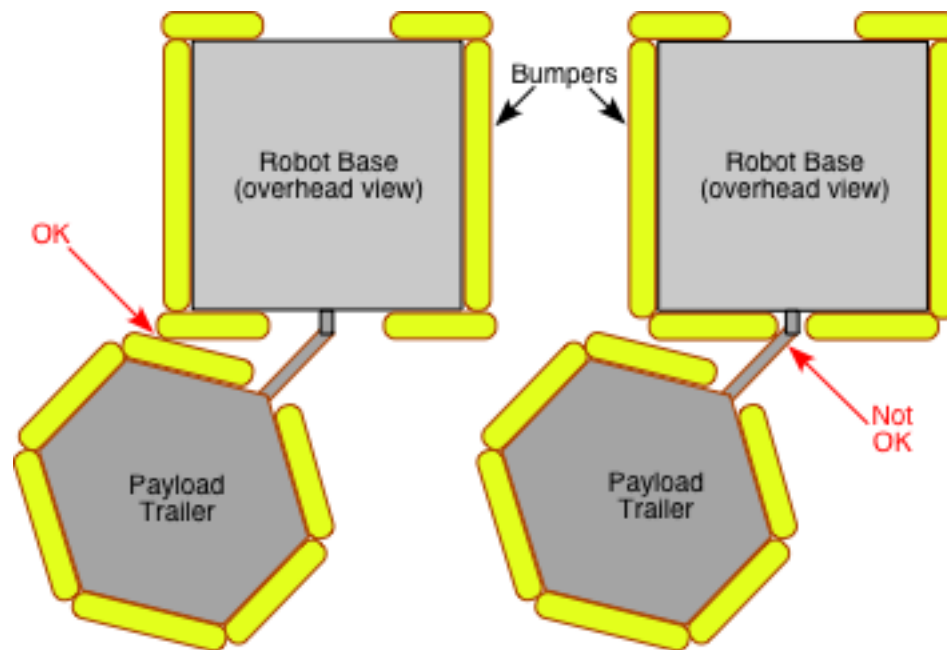

Figure 8-6
- E. The Trailer Hitch must be placed such that, as the TRAILER swings from side to side, the first contact between the TRAILER and ROBOT is BUMPER-to-BUMPER and not TRAILER-tongue-to-BUMPER (to prevent placing excessive stress upon, and possibly damaging, the TRAILER tongue). See Figure 8-6.
- <R42>** The 12V battery, the main 120-amp circuit breaker, and the Power Distribution Board shall be connected as shown in Figure 8-6. In particular: